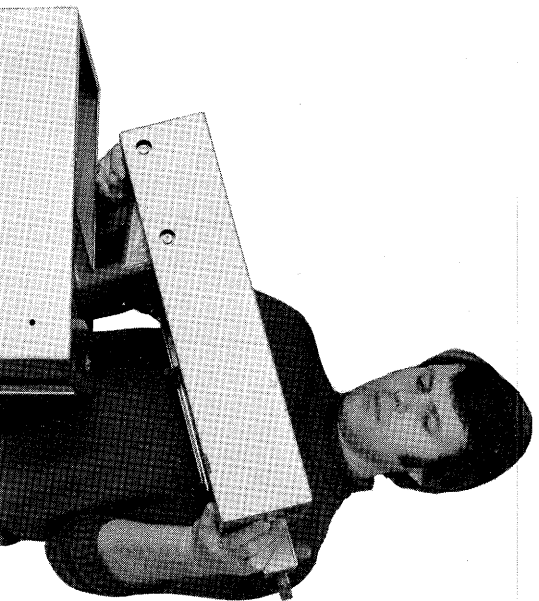

Fig. 8
3. Attach the interlock plate to the interlock arm by means of the two hex. screws M 8 x 12. See fig. 8.